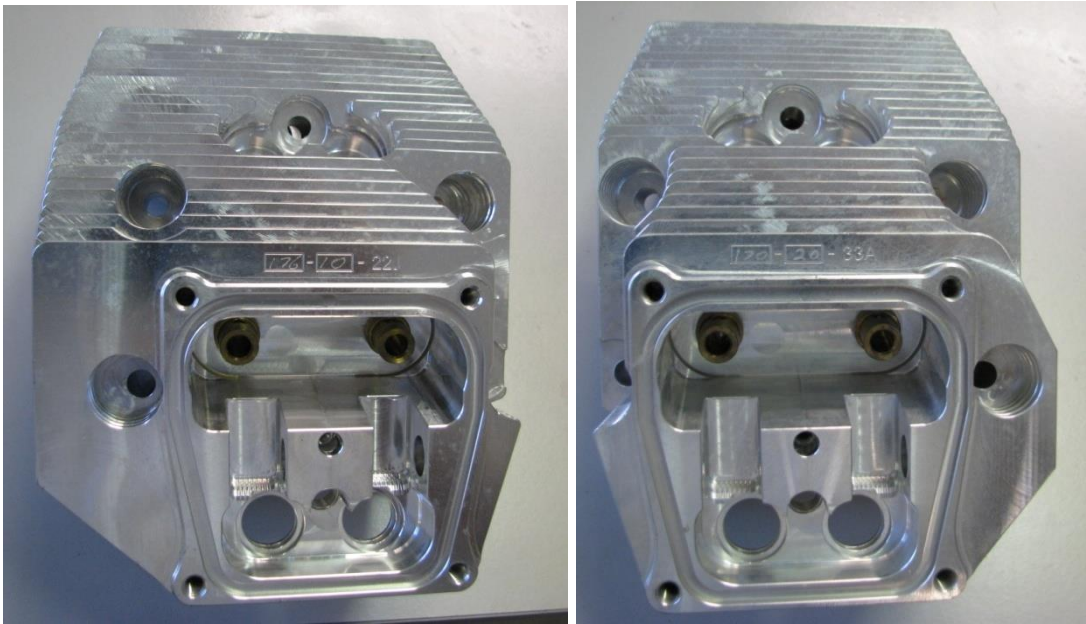

Figure 146 – Cylinder Head Comparison (2200 head on left, 3300 on right).
- Note that the 2200 engine uses two different cylinder heads – one for cylinders 1 & 4 and another for 2 and 3 - Figure 146 refers. The Jabiru 3300 engine uses the same cylinder head for all cylinders – though they are fitted with different induction or exhaust pipes depending on where they are fitted to the engine.